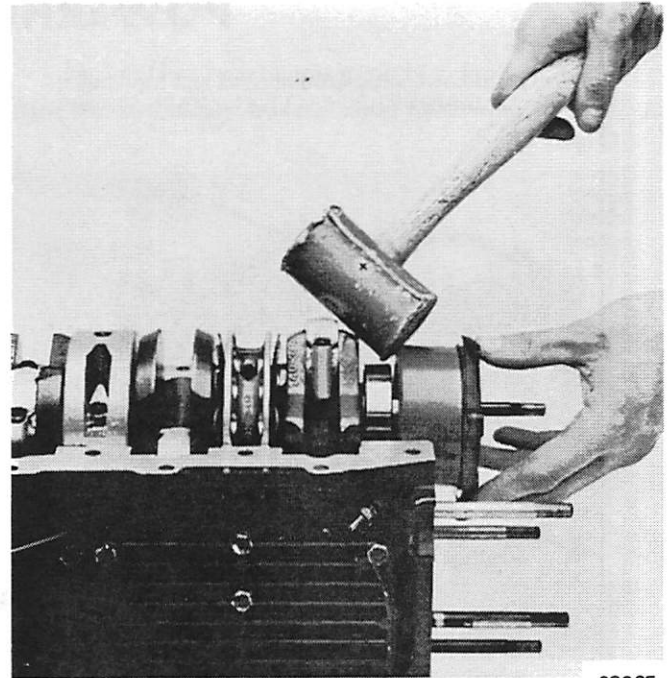

Figure 3. Removing End Caps
3. Tap off end caps with a rawhide mallet. DO NOT tap on shims. (Figure 3)